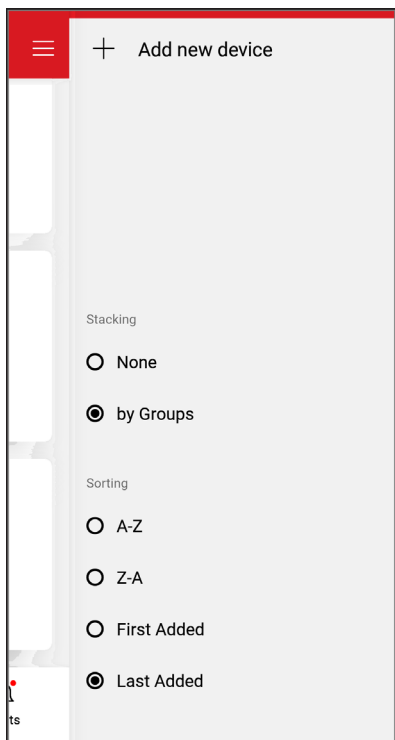

Figure 81. Add New Device
Once the user registration is complete, you can begin to add your AVIA heaters via the Raymote mobile app. See **Figure 81**.
4. In the Raymote app, press the menu button  located at the top left corner of the screen, then press "+ Add new device". See **Figure 81**.